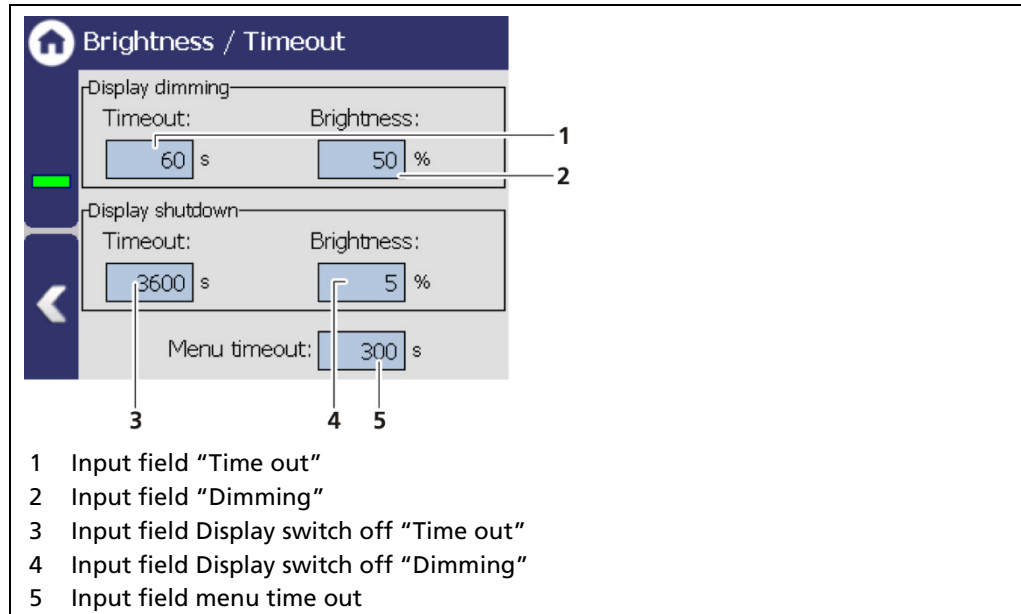

Fig. 43 Brightness / Timeout
Display dimming	In the field Display dimming, clicking the input fields allows the entering of the brightness (Fig. 43, item 2) in percent, that is set after expiry of the time (Fig. 43, item 1).
Display shutdown	In the field Display shutdown, clicking the input fields allows the entering of the brightness (Fig. 43, item 4) in percent, that is set after expiry of the time (Fig. 43, item 3).
Menu timeout	Under "Menu timeout" clicking on the input field (Fig. 43, item 5) changes the time period (seconds) in which the menu view changes to the standard view.